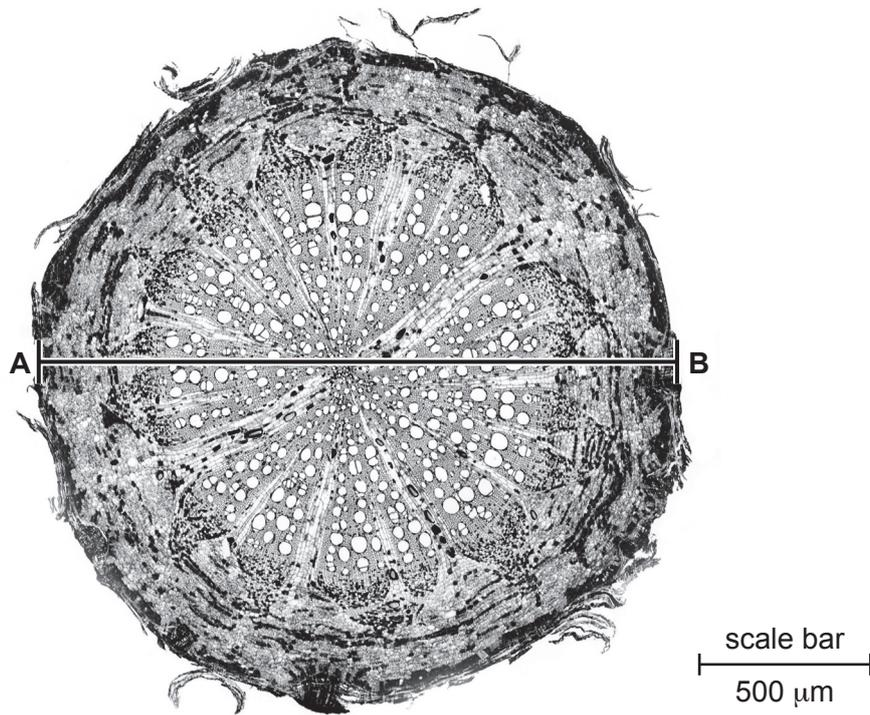

Fig. 2.2
(b) Fig. 2.2 shows a photomicrograph of a transverse section through a different root.
- (i) Identify **three** observable differences, other than colour, between the root section on **K1** and the root section in Fig. 2.2.
(ii) Line **A–B** represents the diameter of the root in Fig. 2.2.
Use the scale bar on Fig. 2.2 to calculate the **actual diameter** of the root.
(iii) Use your value from **(b)(ii)** to calculate the magnification of Fig. 2.2.